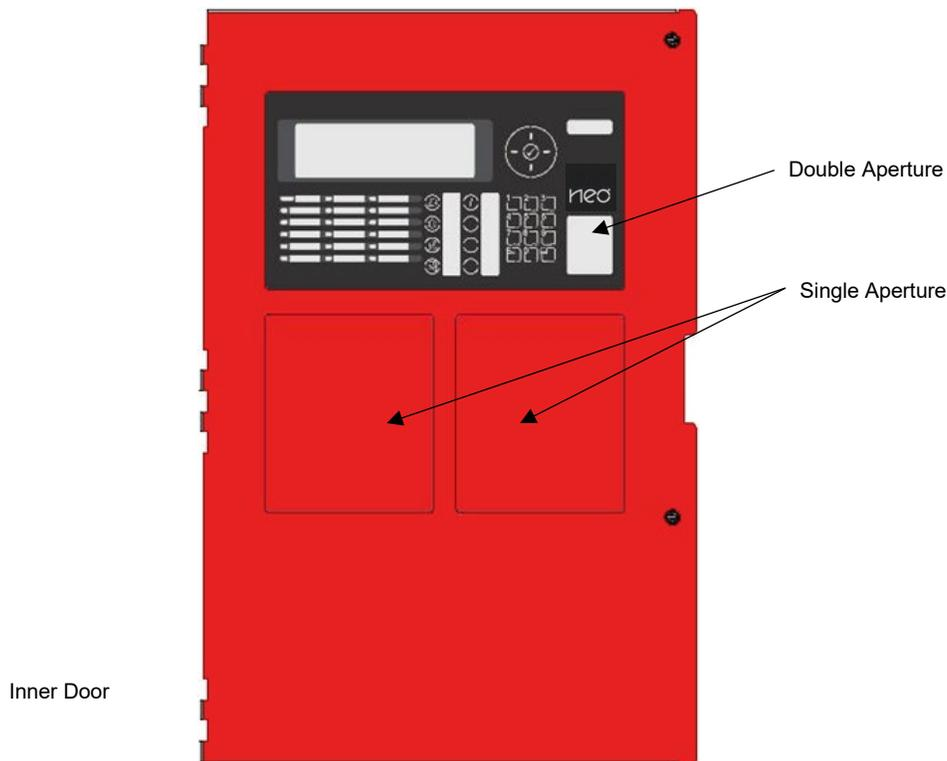

Figure 2 – NX10-FACP-(x) Inner Door
The Neo NX FACP inner door supports one (1) double aperture module and two (2) optional single aperture modules. The inner door is preassembled with one NX10-ACS-DSP alphanumeric graphic display in the double aperture location and two AX-SAPs blank single aperture plates in the single aperture locations (Figure 2).